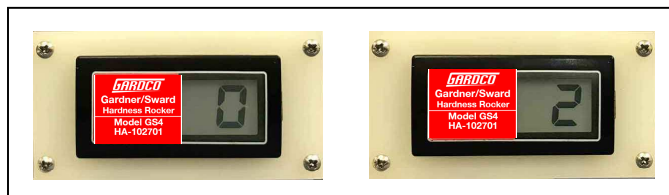

Figure 7
*Step-5 When the Rocker's DISPLAY shows the Calibration Complete, Code (2-0)—see **Figure 7**—every two seconds, pick up the Rocker, then go to Step-6.*